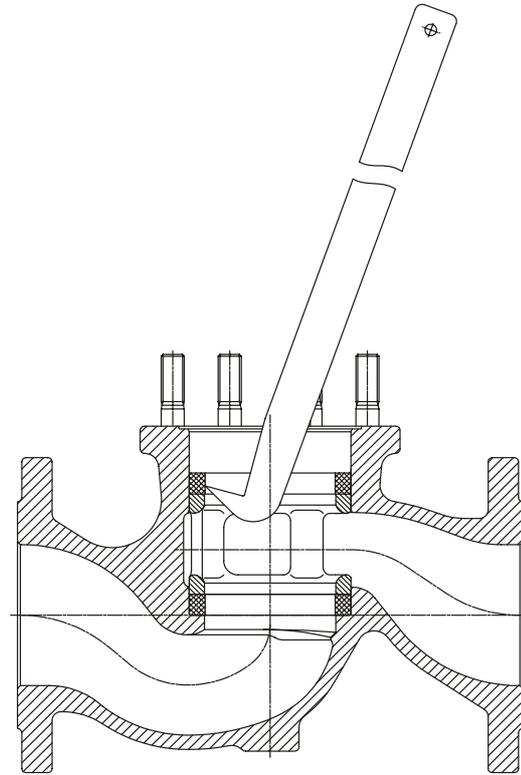

Fig.3
- *Remove washer (Pos.17) and pull out upper valve ring (Pos.14) using the ring extractor hook, (see Page 10 Fig.3)*